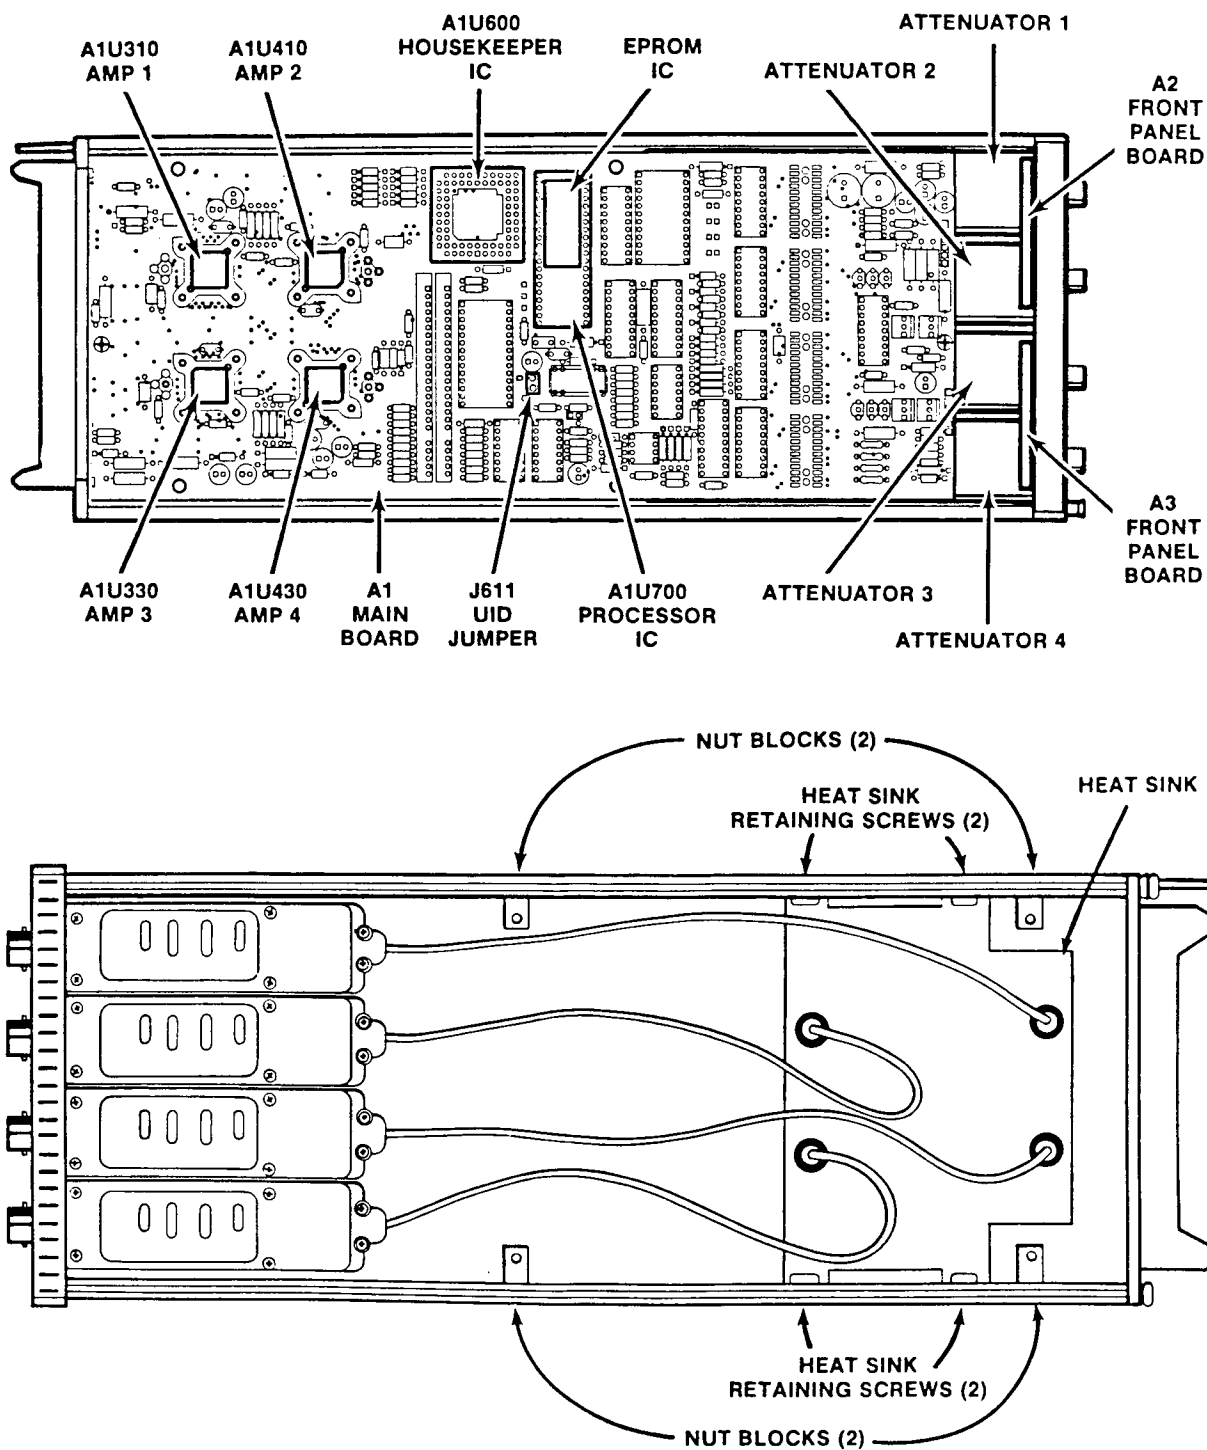

Figure 1. - Component locations.
- () 1. Replace A1U310, A1U330, A1U410, and A1U430 vertical pre-amp microcircuits, with the new microcircuits, pn 165-2089-06, provided in this kit. For disassembly and replacement of the microcircuit from the Hypcon assembly connector refer to the following steps. Refer to Figure 1, for component locations.